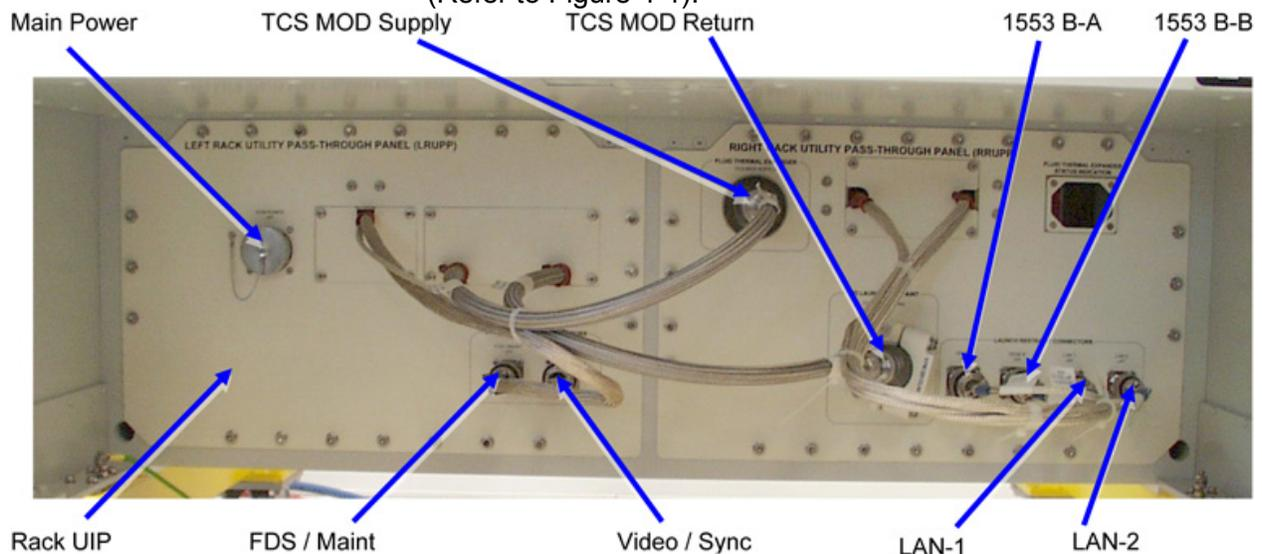
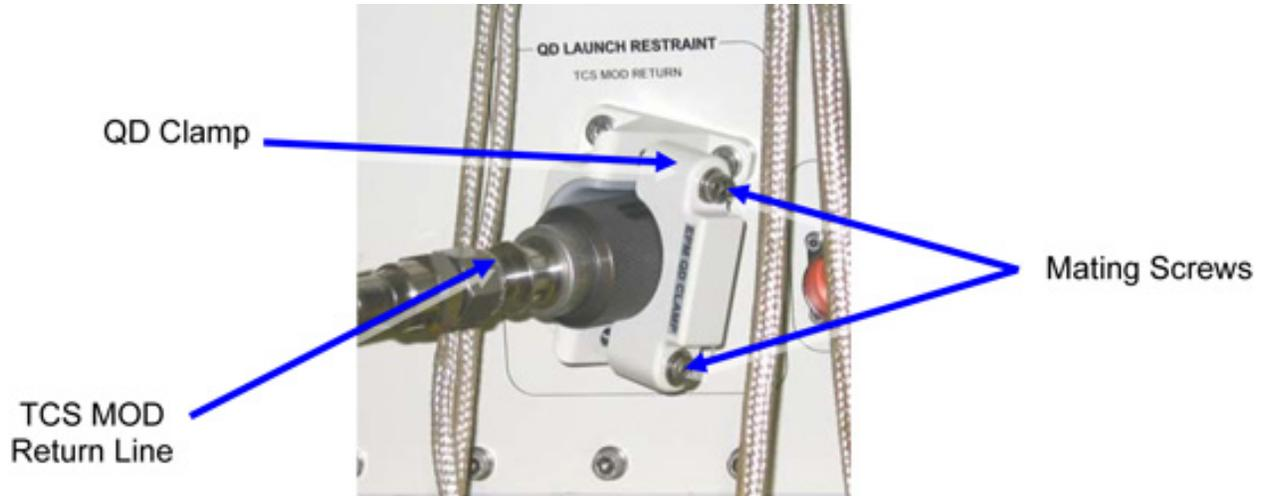

Figure 4-1 EPM Umbilicals in Launch Configuration at Rack UIP.
Figure 4-2 TCS MOD Return Line Launch Stowage
(Refer to Figure 4-1).
- 4.3 Release QD clamp mating (captive) screws (2) and remove TCS MOD Return Line from QD clamp (Ratchet Wrench, 1/4" Drive; 6" Extension, 1/4" Drive; M6 XZN Head, 1/4" Drive). (Refer to Figure 4-1 / Figure 4-2).
- 4.11 TCS MOD Supply ←|→ Fluid Thermal Expander QD. (Refer to Figure 4-1).
Refer to Figure 4-1.